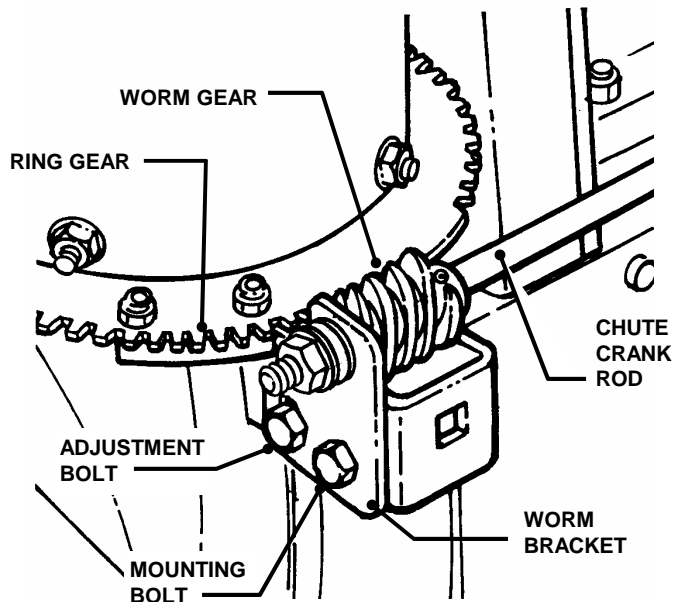

FIGURE 4.11
1. Loosen adjustment bolt. Move crank worm bracket away from ring gear slightly. **NOTE:** The worm gear should always maintain full contact with ring gear after adjustment. Retighten adjustment bolt. If crank still does not operate satisfactorily, lubricate worm gear and ring gear with grease. See Figure 4.11.